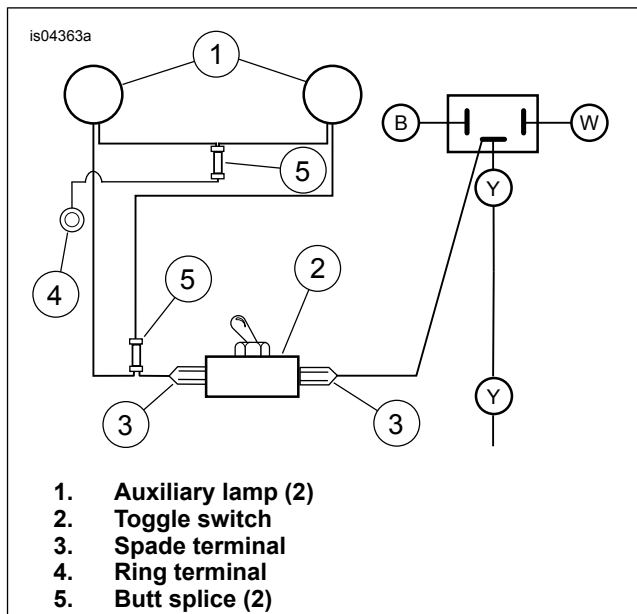

Figure 3. Wiring Diagram
- See Figure 3. Route gray/black (power) wires and black (ground) wires from auxiliary lamps (1) into bottom of front fork panel to a location near switch. Cover wires to each lamp with vinyl conduit (24). Crimp both gray/black wires into one end of a butt splice. Use a small section of wire cable (23) and crimp into opposite end of butt splice. Crimp final end into spade terminal (22).
- Attach connector (3) to the nearest terminal on the toggle switch (2).
2. See Figure 3. Insert two stripped ground wires to butt splice connector (5).
3. Insert the end of the ground wire with ring (4) to the opposite end of butt splice (5).